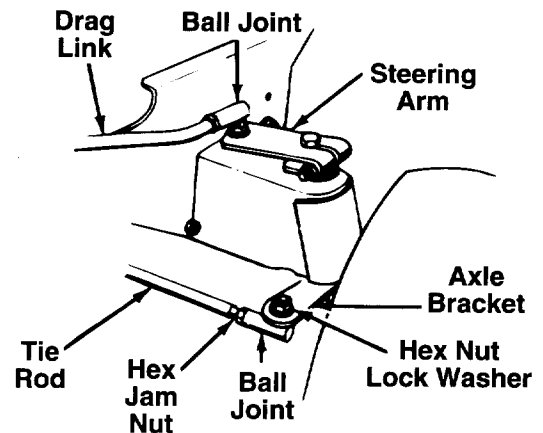

FIGURE 26.
1. Remove the hex nut and lock washer, and drop the end of the tie rod from the axle bracket. See figure 26.
To take off the drag link, remove the nuts and lock washers holding the ball joint to the steering gear and right front axle bracket. See figure 26.